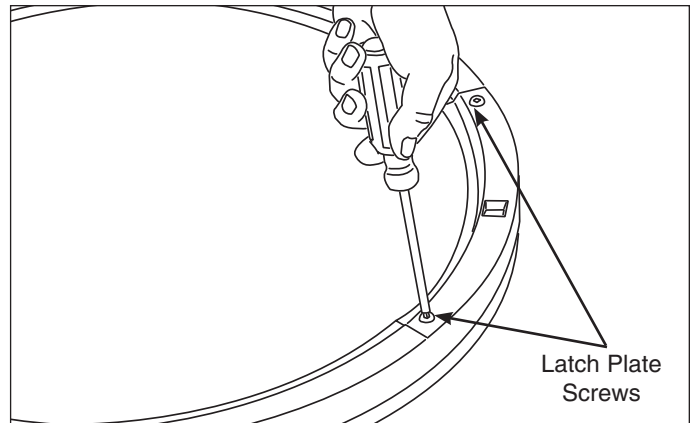

Figure 4-4.
3. While supporting the weight of the door with both hands, separate the door from the hinge. (See Figure 4-4)
1. Using a #2 square bit screwdriver, remove the two long, coarse thread, countersunk screws. (See Figure 4-4)